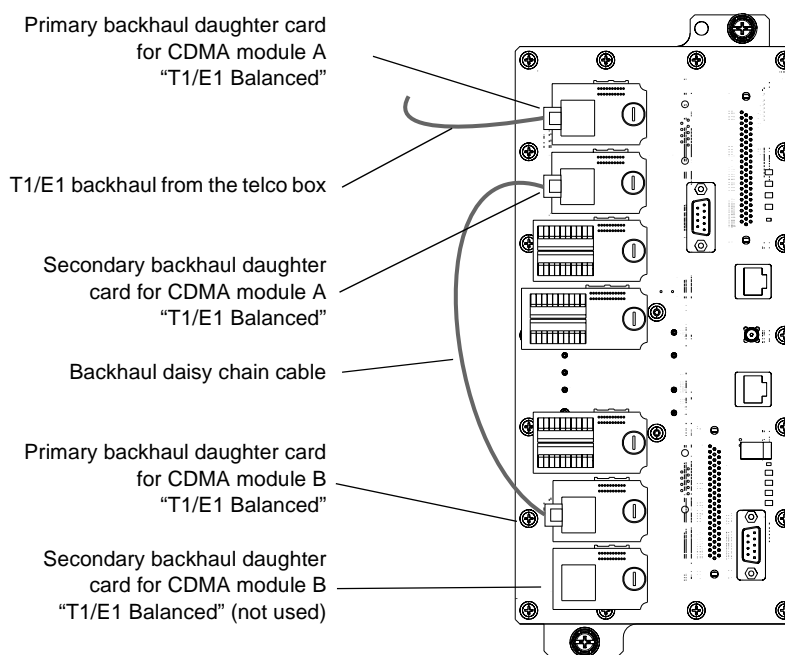

Figure 4-7 Signal Surge Module with Backhaul Daisy Chaining
3. To connect each T1/E1 cable to the appropriate primary T1/E1 connector on the signal surge module, see Figure 4-7.
- Using an RJ-45-terminated, Category 5 twisted-pair cable, connect the secondary backhaul (one of the ones you connected in the previous step) to the primary backhaul of the second CDMA module. For the location of the T1/E1 connectors on the signal surge modules, see Figure 4-7. For the location of the signal surge modules see Figure 4-2 on page 4-5